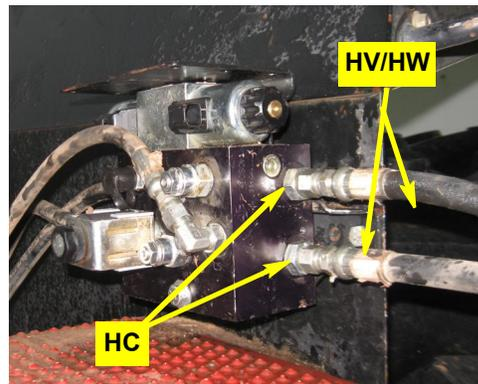

Figure 7b: Steering hoses connected to steering block
- b. Connect the hoses **HV** and **HW** to adapter fittings **HC** in the **A** and **B** ports of the hydraulic steering block (Figure 7b).